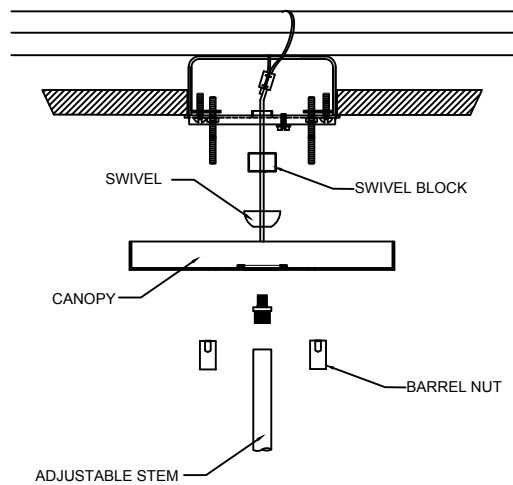

FIGURE-02
- Pull up & attach the canopy to the heavy duty strap and secure it with barrel nuts. (See Figure-02)